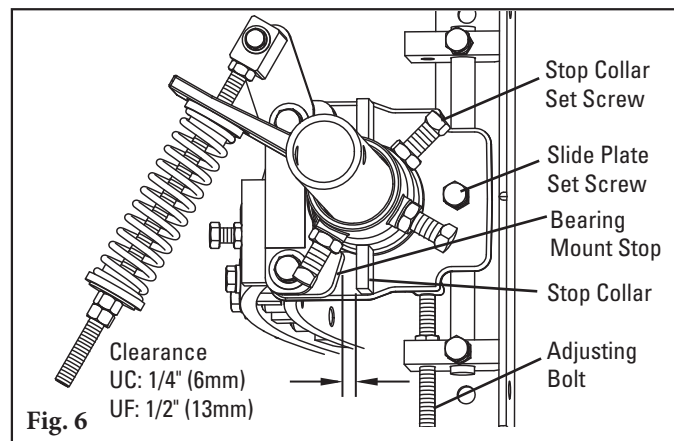

Fig. 6
- a. Set both stop collars to a clearance of 1/4" (6mm) between stop collar and bottom bearing mount stop for UC cleaners, or 1/2" (13mm) for UF cleaners (Fig. 6). This will prevent blade from moving into belt. Tighten set screws and lock nuts.